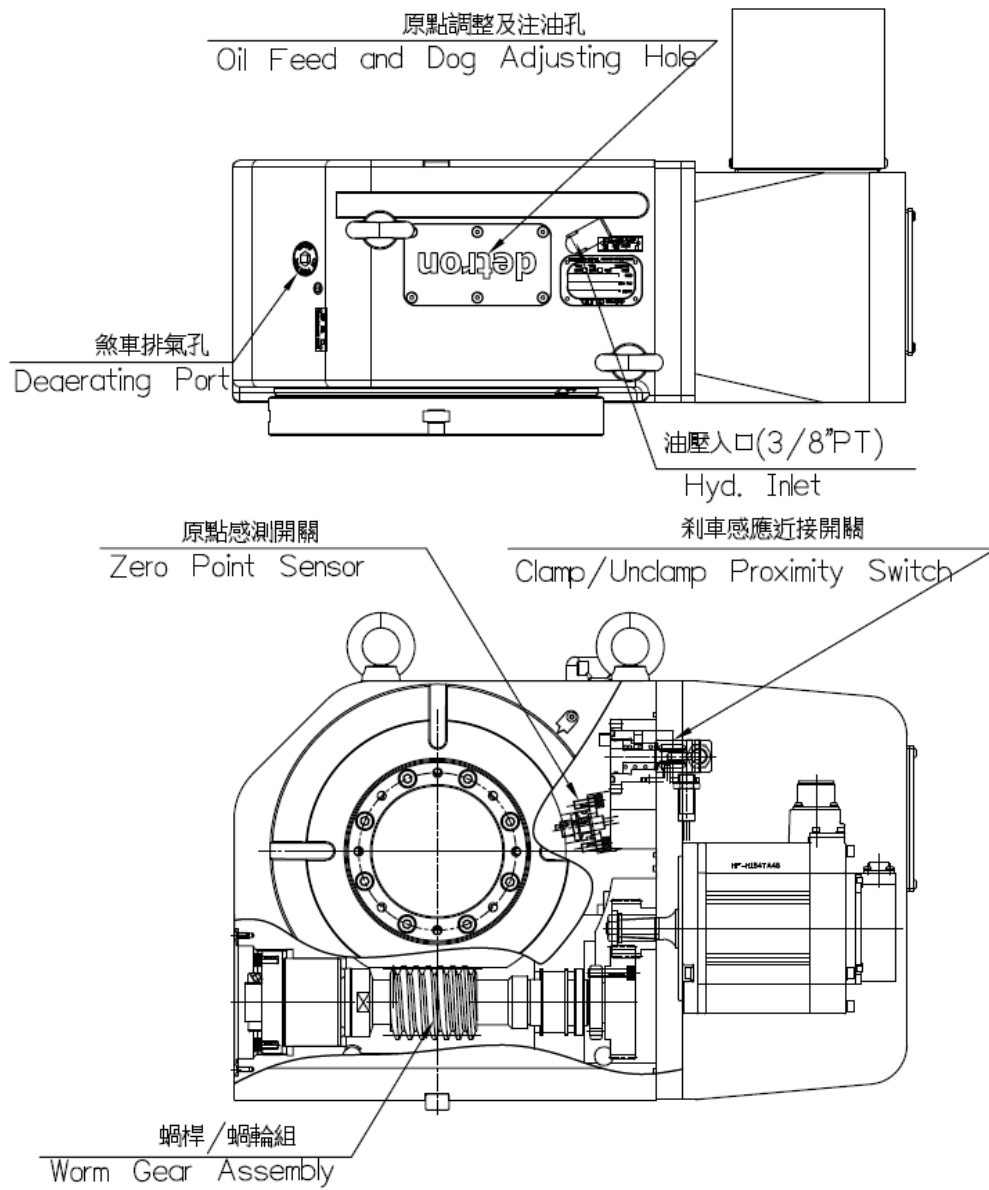

Fig 5-1
- (5).Add Lubrication. (see Fig 5-1 、Page 11-1)
- (6).Make sure that the electrical connection between the Rotary Table and the machine controller is well connected according to the attached electrical circuit diagram.
(see Fig 5-1 、Page 10-2)(Note: Hydraulic oil needs filtration)
- Inaccurate relative position between proximity switch and Zero Dog. Open the cover of observation window, loosen screws on Zero Dog; move Zero Dog to a proper position and test for correct action. Replace the cover of observation window. ( *see Fig 5-1* )